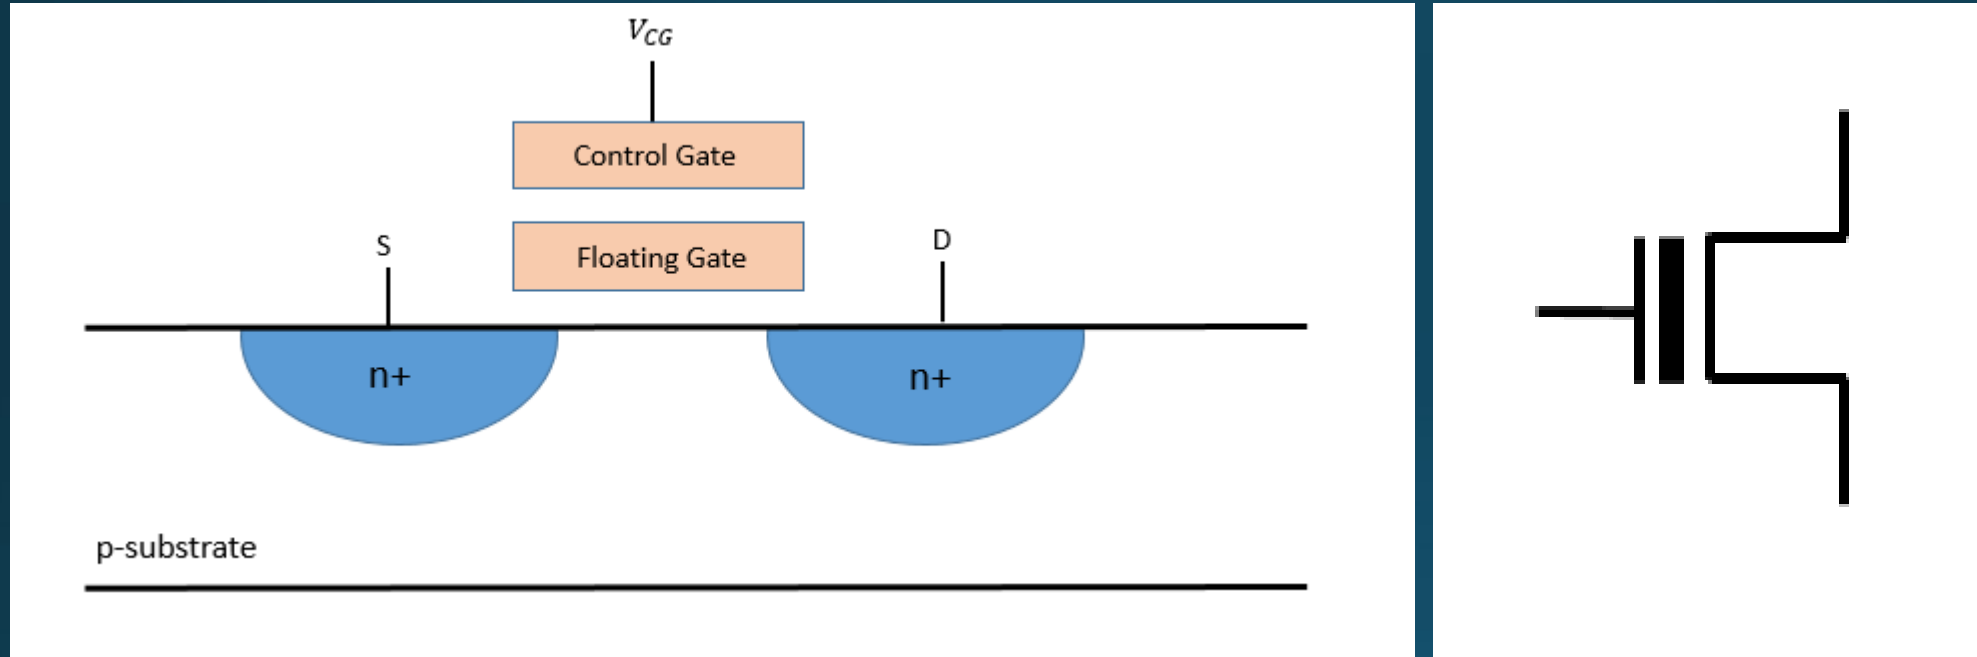

Figure 4
Figure 4 and 5 show the programming and erasing of a floating gate MOSFET by applying high voltage and using Fowler-Nordheim tunneling (FNT) [4]. Applying large voltage to the control gate push electrons into the floating gate (FG), programming, and applying large voltage to the double well pulls electrons from the FG, erasing. Figure 6 shows how this process increases and decreases the threshold voltage of the device. The double-well is used to prevent current flow through p-substrate because that would create irregular behavior of the overall memory.